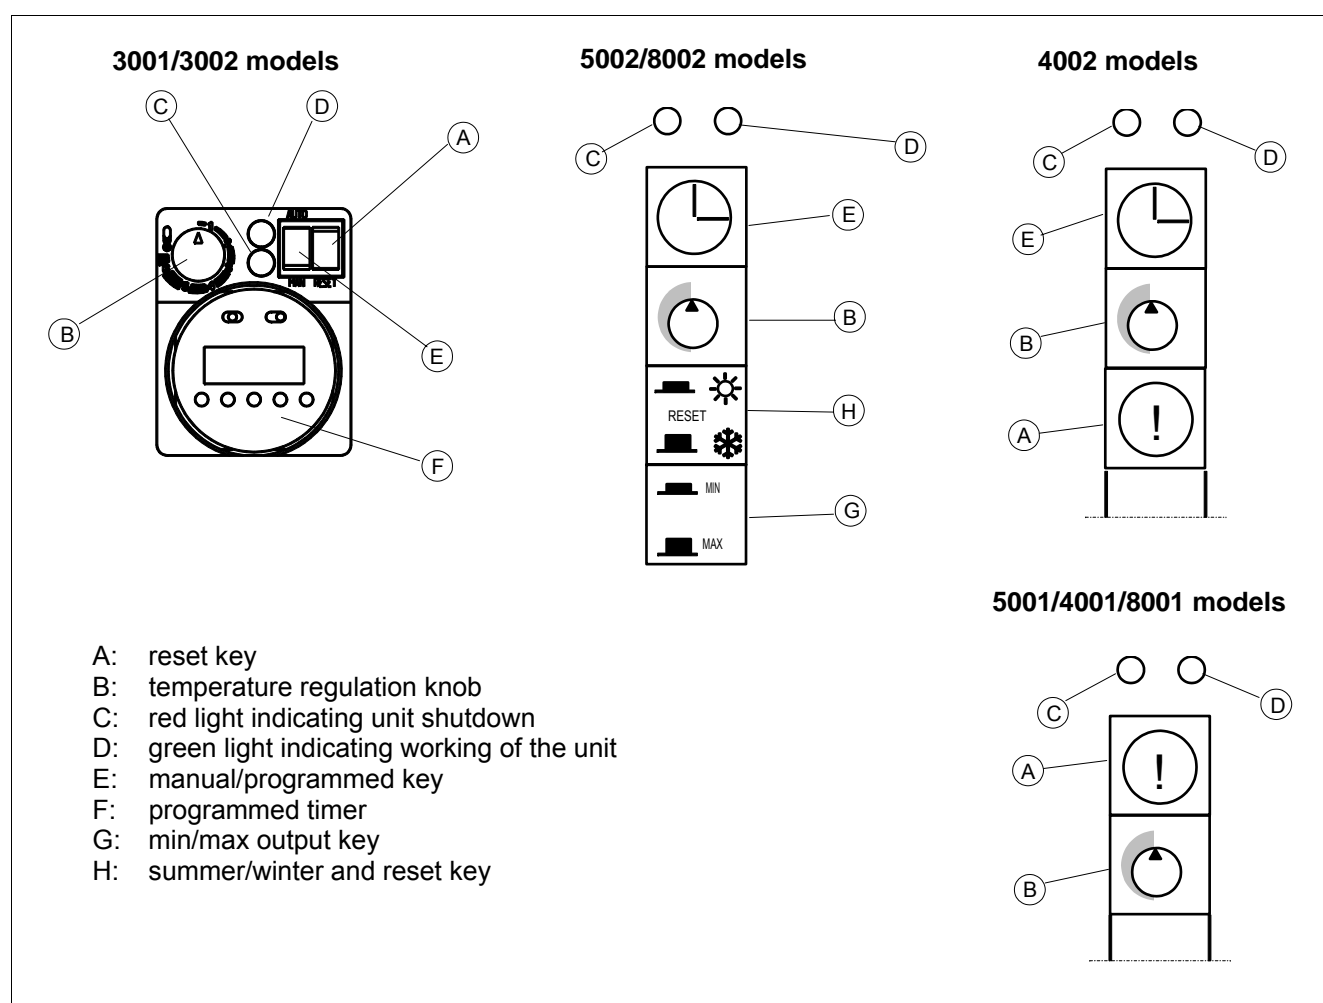

Figure 31 – MAIN PANELS
1. Shift the summer/winter key pad to a winter position - released (see Figure 31).
3. For models 3002, 4002, 5002 and 8002 set the timer according the end user specific requirements (see "programmed timer" section). Set "E" key (see Figure 31) manual/programmed on the desired system of operation of the unit (loose key - MAN position in case the unit is required to operate through the room thermostat or pressed key - AUTO position in case the unit is required to operate also by means of the programmed timer).
4. Turn the B knob for temperature regulation at the highest desired temperature (see Figure 31).
By pressing the summer/winter H key (see Figure 31), only the fan starts working. This will allow a light and pleasant ventilation of the ambient air.